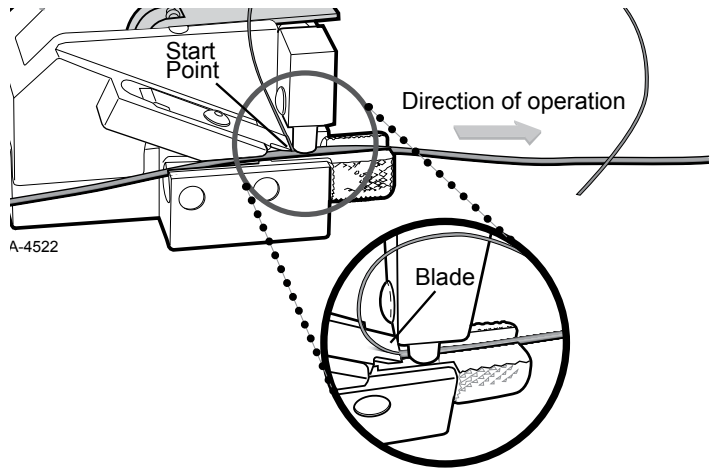

Figure 23
- d. Pull the tool as shown in Figure 23 to shave off the top of the tube and gain access to the fibers (refer to the marks on the buffer tube as required).